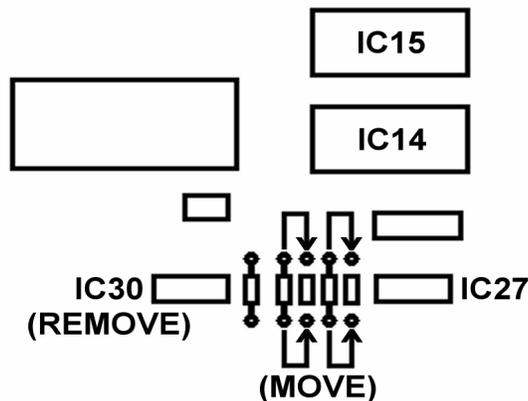

FIGURE A3
STEP 5: Locate the two (2) 10Ω (ohm) resistors between IC30 and IC27 that are shown in **FIGURE A3**. Using your SOLDERING IRON, unsolder and move both leads of each resistor over one eyelet to the right (see **FIGURE A3**).